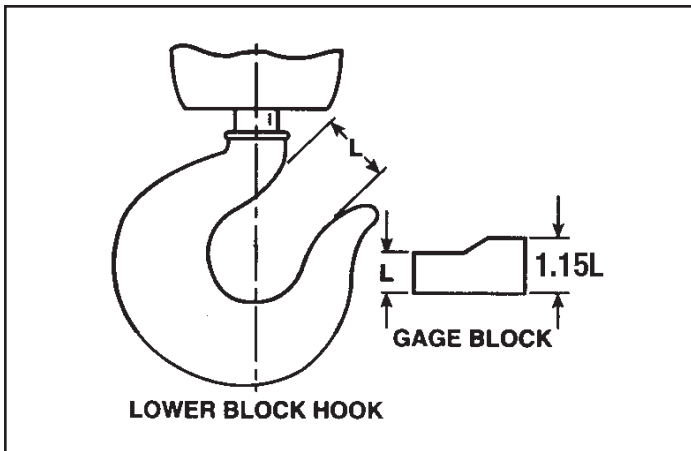

Figure 5-2. Gage Block
- Check throat opening of the hook. (Refer to Figure 5-2.) It is recommended that upon receipt of the hoist, a measurement be made and recorded of the hook throat opening. OSHA regulations require that the hook be replaced if the throat opening exceeds 15 percent of the original opening, or if the hook is twisted more than 10 degrees from the unbent plane. We suggest that a gage block properly identified to the hoist, similar to the one shown in Figure 5-2, be made for each hook for use in these measurements.